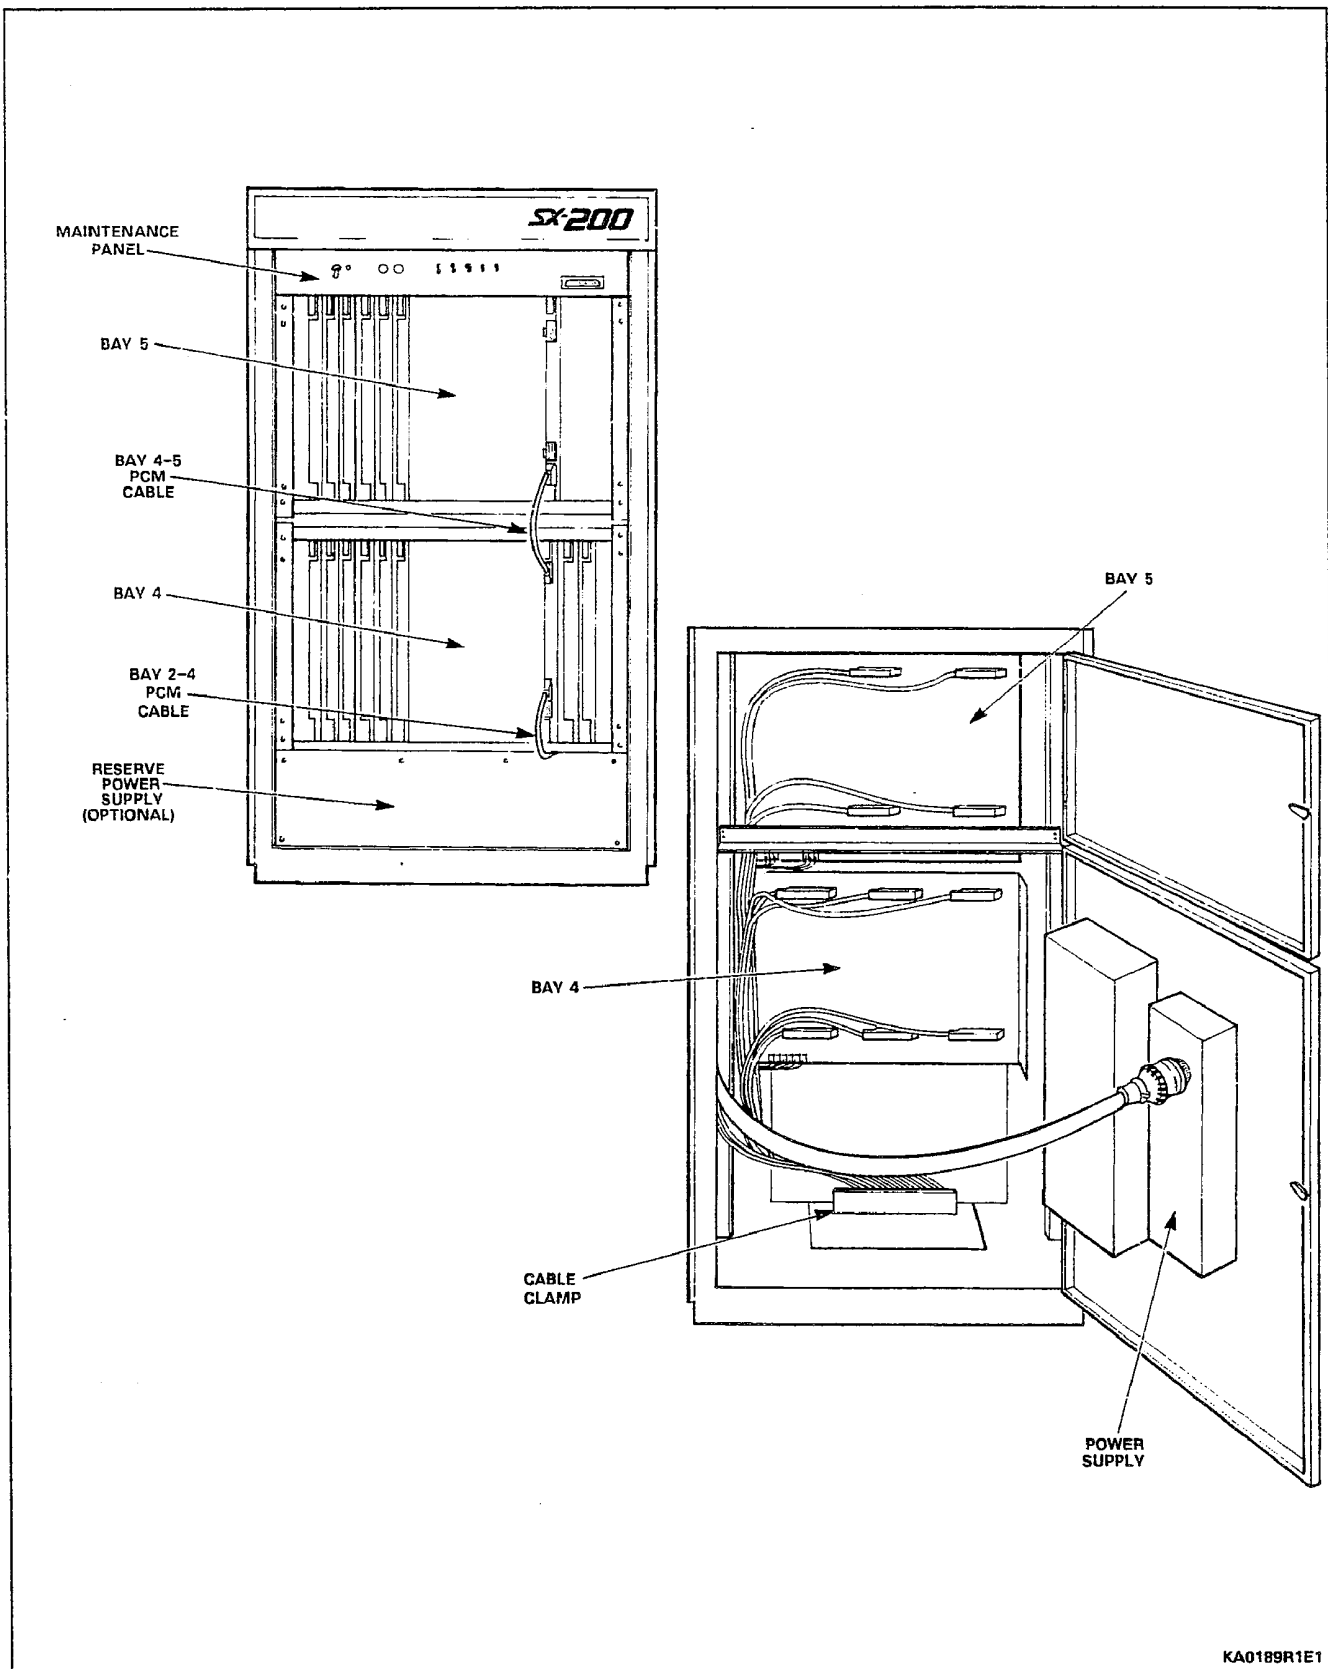

Figure 2-5 SX-200® DIGITAL PABX Peripheral Cabinet
**2.05** The SX-200® DIGITAL PABX 480-port configuration optional 216-port Peripheral cabinet (Figure 2-5) has a 120-port lower shelf (Bay 4) and an optional 96-port upper shelf (Bay 5) which are connected to and controlled by the Control shelf.